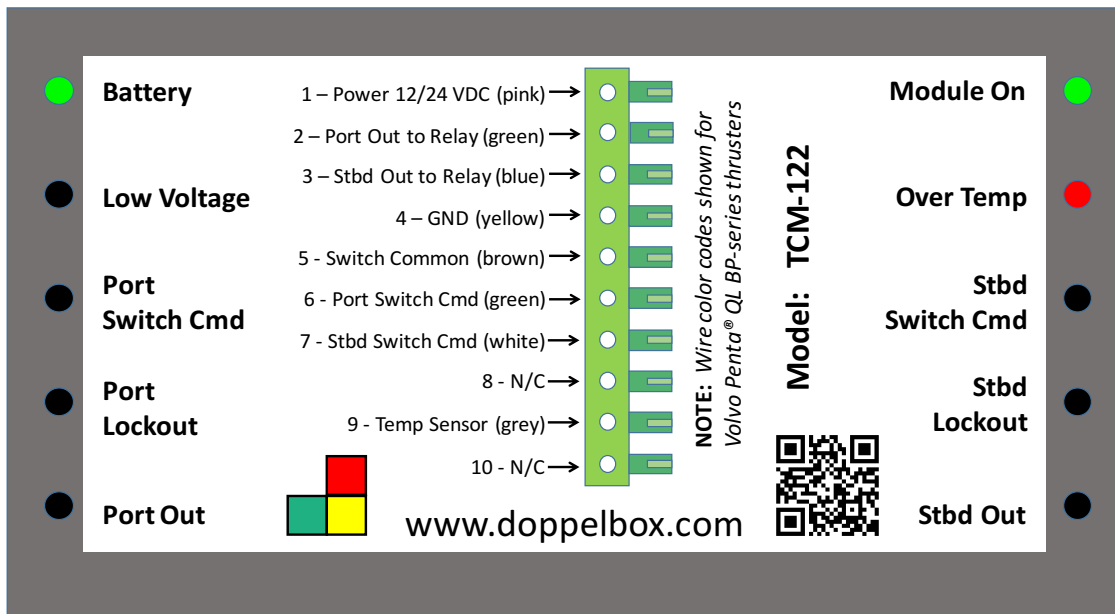

Figure 2.2-1 Power On and Over Temp LEDs will Illuminate with Pins 1 and 4 connected
- 5.) Connect Pin 1 to 12/24VDC (pink wire) and Pin 4 to Ground (yellow wire). Plug the screw terminal block back into the TCM-122 and turn power back on. Ensure the Battery, Module On and Over Temp LED's on the front face of the TCM-122 are illuminated (refer to Figure 2.2-1).